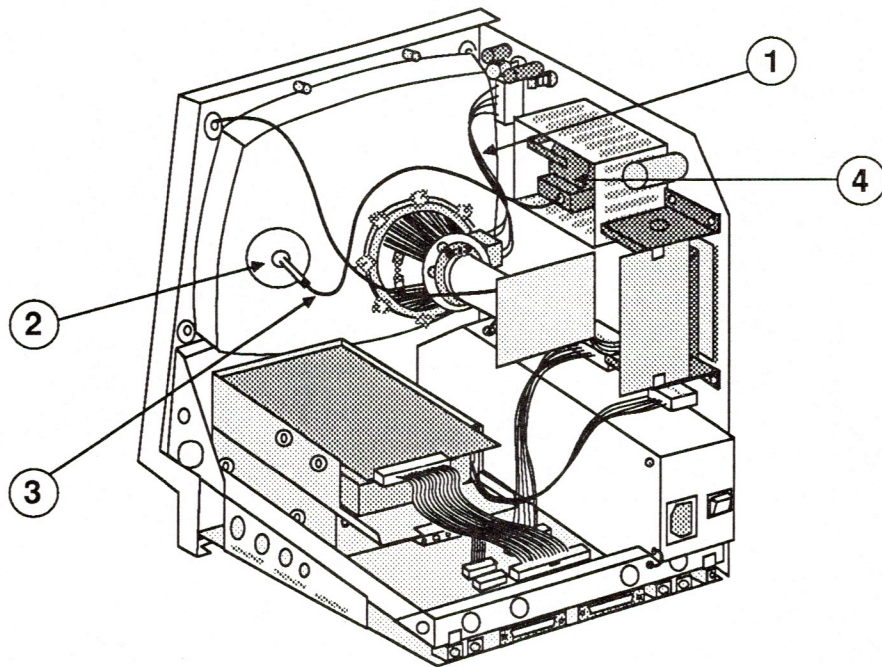

FIGURE 4
- The yoke wires (Figure 4, #1)
- The anode connector (Figure 4, #2)
- The anode wire (Figure 4, #3)
- The flyback transformer (Figure 4, #4)